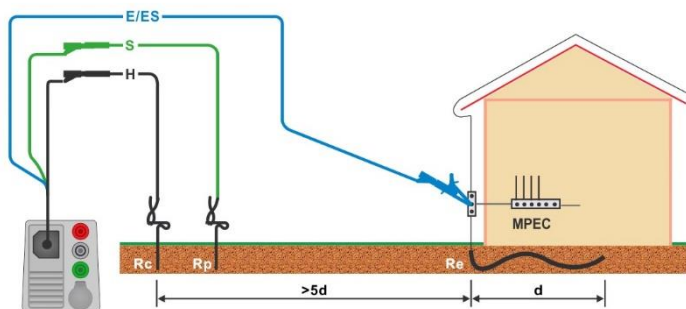
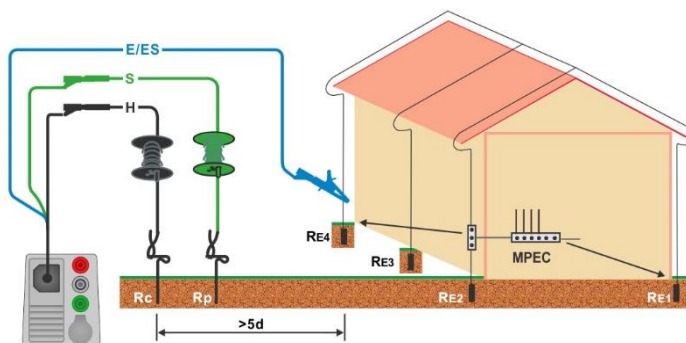

Figure 7.90: Resistance to earth, measurement of main installation earthing
Figure 7.91: Resistance to earth, measurement of a lighting protection system
- ▶ Connect 3-wire test lead to the object under test, see **Figure 7.90** and **Figure 7.91**.